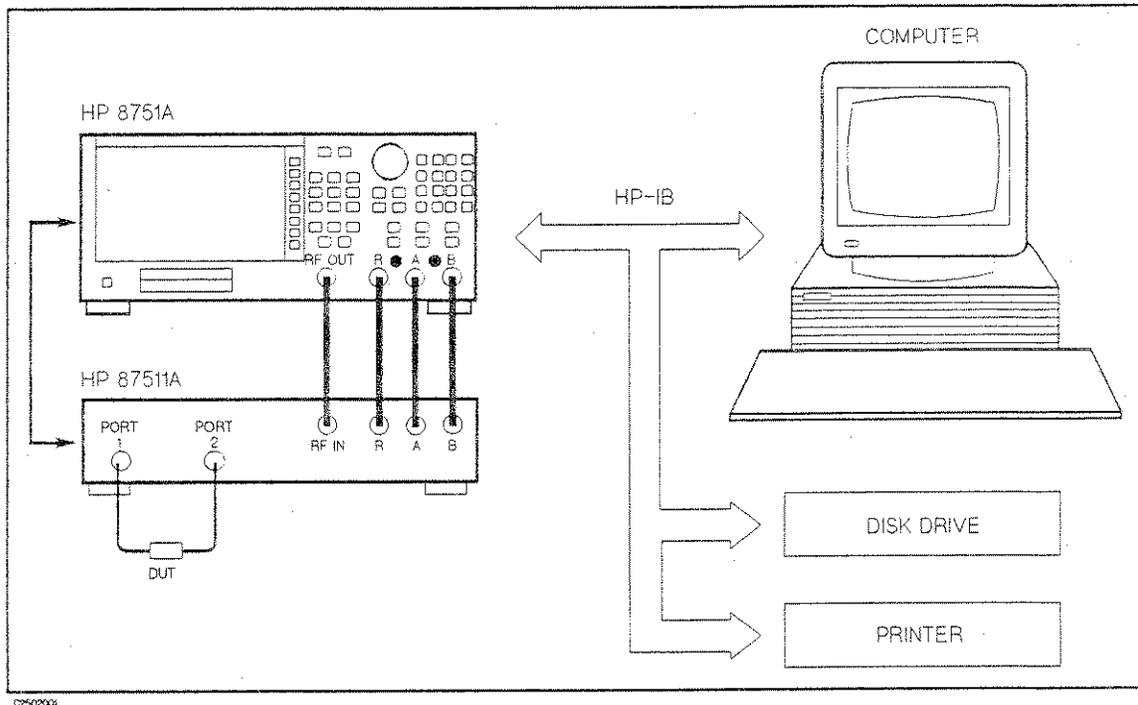

Figure 2-1. HP-IB Connections in a Typical Setup
1. Set up the HP 8751A as shown in Figure 2-1.